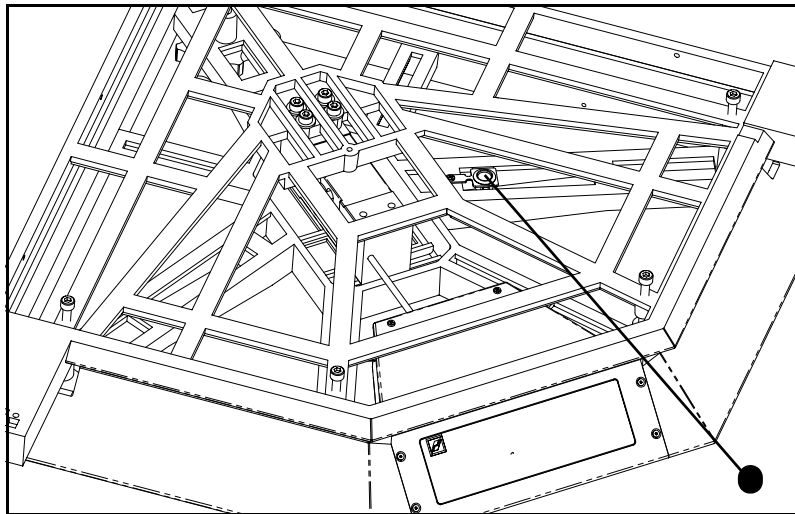

Figure 11
- Figure 11 shows the location of the leveling bubble. Look at the leveling bubble and determine if the CubiScan 100-L is level.